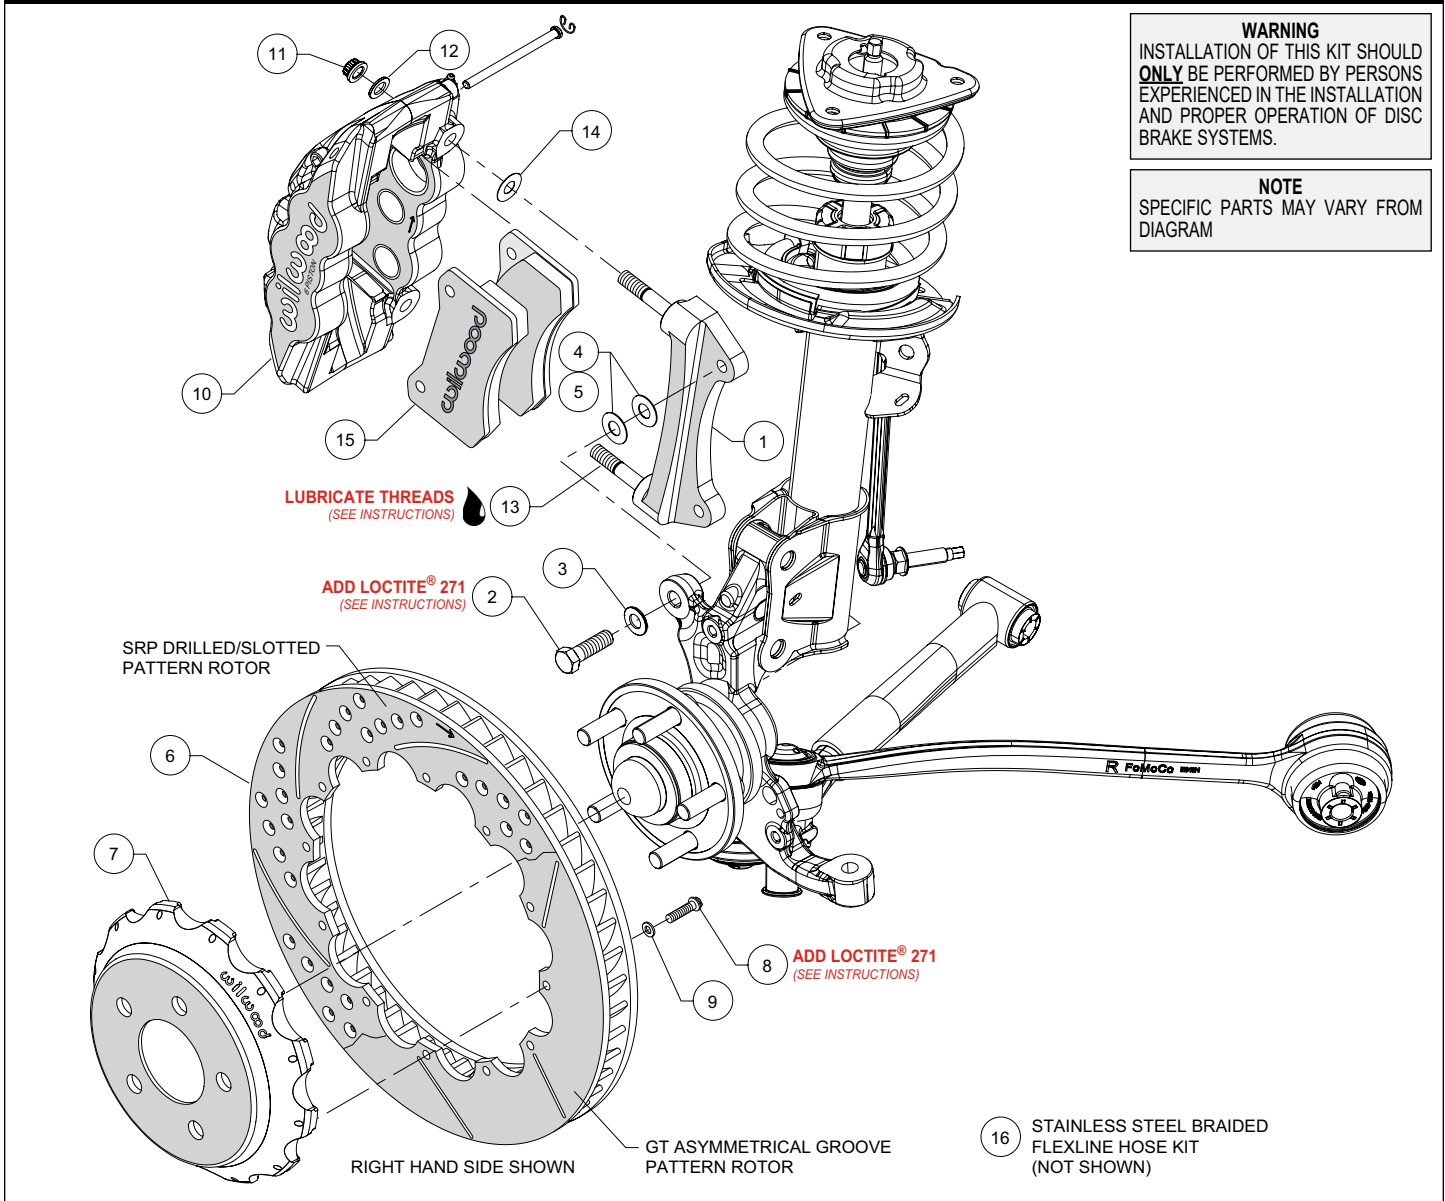
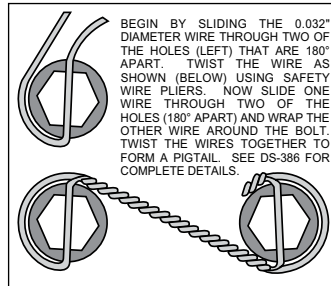

Figure 1. Typical Installation Configuration
Figure 3. Safety Wire Diagram
Assembly Instructions (numbers in parenthesis refer to the parts list and Figure 1 on the preceding pages):
- The caliper mount bracket (1) should initially be installed with clean, dry threads on the mounting bolts. Orient the bracket, as shown in Figure 1 and Photo 1, and install using bolts (2) and washers (3). Initially place two .033" thick shims (4) on each bolt between the bracket and upright, Figure 1. Temporarily tighten the mounting bolts. **NOTE:** *The bracket must fit squarely against the mount bosses on the upright.* Inspect for interference from casting irregularities, machining ridges, burrs, etc. Later, after the caliper alignment has been checked, the mount bolts will be secured using red *Loctite*® 271.
- Orient the rotor (6) and the hat (7) as shown in Figure 1 and Photo 2. Attach rotor to hat using bolts (8) and washers (9). Apply red *Loctite*® 271 to the bolt threads and torque to 155 in-lb using a criss-cross pattern. For an added measure of security, the bolts may be safety wired using standard 0.032 inch diameter stainless steel safety wire as shown in Figure 3. Refer to Wilwood's data sheet DS-386 (available at www.wilwood.com/Pdf/DataSheets/ds386.pdf) for complete safety wire installation instructions.
- **NOTE:** *This kit contains distinct right and left hand calipers that must be mounted in a specific direction, as described below.* Lubricate the caliper mounting studs (13) with lightweight oil. Initially place one .030" thick shim (14) on each stud between the caliper and the bracket, as shown in Figure 1 and Photo 4. Mount the caliper (10) onto the bracket (1) using lock nuts (11) and washers (12), Figure 1. Temporarily tighten the lock nuts. Ensure that the caliper is mounted so the largest pistons are at the rotor exit end of the caliper, in relation to the direction of the rotor. View the rotor through the top opening of the caliper. The rotor should be centered in the caliper, Photo 5. If not, adjust by adding or subtracting shims (4 and/or 5) between the bracket and the upright. Always use the same amount of shims on each of the two mounting bolts. Once the caliper alignment is correct, remove the bracket mounting bolts one at a time, apply red *Loctite*® 271 to the threads, and torque to 60 ft-lbs.
- Remove the two pad retaining pins from the caliper (10) by carefully popping out the pin retaining clips and sliding out the pins. Insert the brake pads (15) into the caliper from the bottom, Figure 1 and Photo 6. With the friction material facing the rotor, secure the brake pads in place with the pad retaining pins and clips, Photo 7. Reinstall the caliper onto the caliper mounting bracket and temporarily tighten the lock nuts. Check that the top of the brake pad is flush with the outside diameter of the rotor, Photo 8. If not, adjust by adding or subtracting shims (14) between the caliper and the bracket. After the caliper pad height is set, torque the caliper lock nuts (11) to 47 ft-lb.